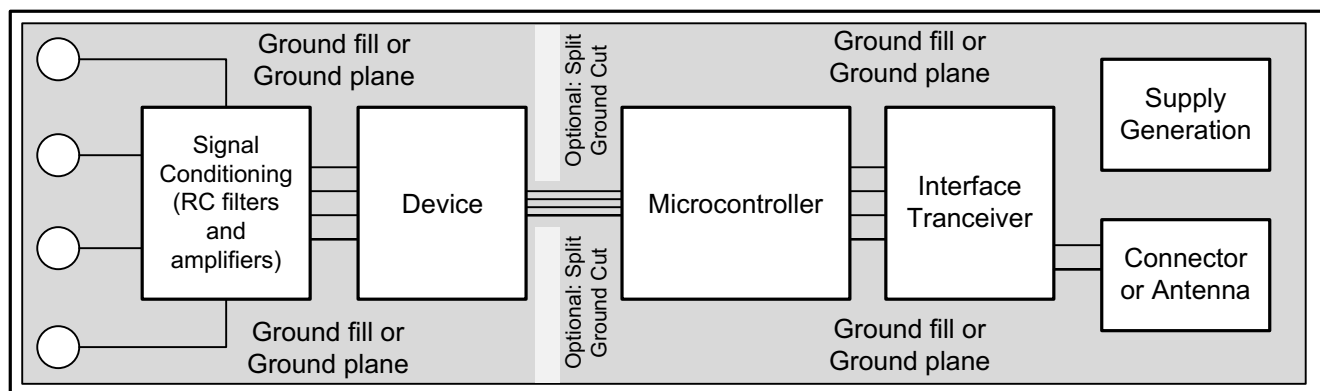

Figure 85. System Component Placement
TI recommends employing best design practices when laying out a printed circuit board (PCB) for both analog and digital components. This recommendation generally means that the layout separates analog components [such as ADCs, amplifiers, references, digital-to-analog converters (DACs), and analog MUXs] from digital components [such as microcontrollers, complex programmable logic devices (CPLDs), field-programmable gate arrays (FPGAs), radio frequency (RF) transceivers, universal serial bus (USB) transceivers, and switching regulators]. An example of good component placement is shown in Figure 85. Although Figure 85 provides a good example of component placement, the best placement for each application is unique to the geometries, components, and PCB fabrication capabilities employed. That is, there is no single layout that is perfect for every design and careful consideration must always be used when designing with any analog component.